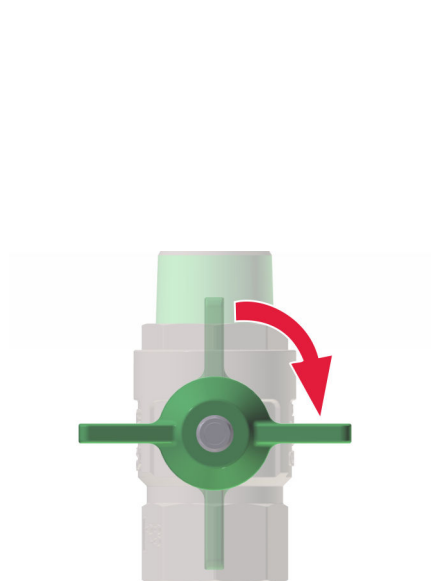

Fig. 30: Ball valves closed
1. ➔ Ensure that all ball valves (Fig. 30) are closed.